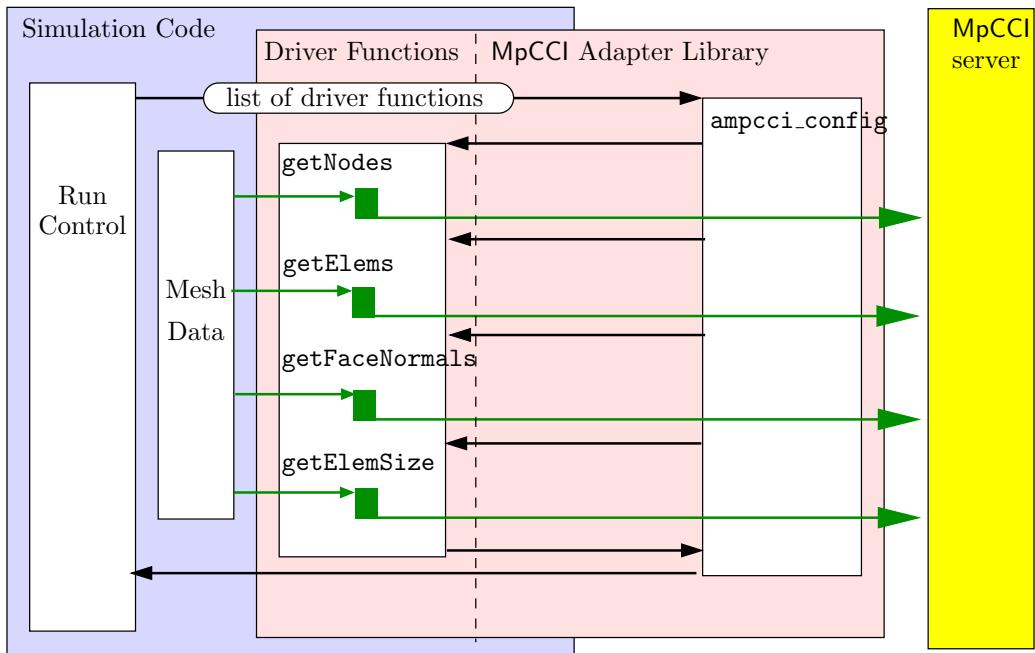

Figure 22: Call of ampcci_config: MpCCI_Driver_getNodes and MpCCI_Driver_getElems are hooked
- * Call `MpCCI_Driver_getNodes` and `MpCCI_Driver_getElems`, in which the mesh is automatically defined by calling `smpcci_defp`, `smpcci_pnod`, `smpcci_pels` and calls `MpCCI_Driver_getFaceNomals` and `MpCCI_Driver_getElemSize` if defined (see Figure 22).